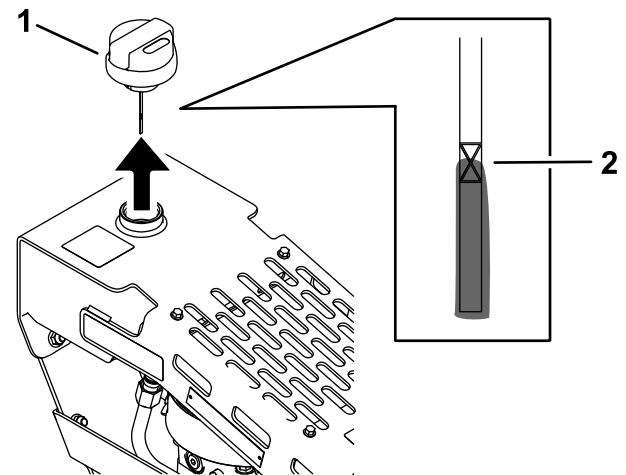

Figure 10
3. Remove the breather cap and wipe off the dipstick with a clean rag (Figure 10).
4. Insert the dipstick into the tank, but do not thread the cap; then remove it and check the fluid level (Figure 10).
5. If the fluid level is low, add hydraulic fluid to the tank until the level is between the upper and lower lines on the dipstick (Figure 10).